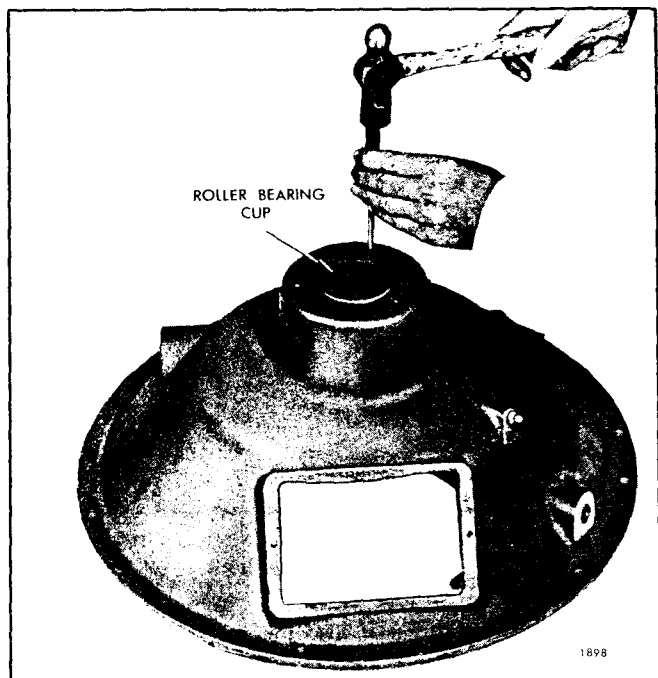

Fig. 10 - Removing Roller Bearing Cup from Housing
5. The bearing cup of the rear roller bearing cone will remain in the clutch housing when the clutch drive shaft is removed from the clutch housing. It may be removed by inserting a punch in the holes provided at the rear of the clutch housing and tapping the punch alternately at three points as shown in Fig. 10. Do not cock the bearing cup when removing it.